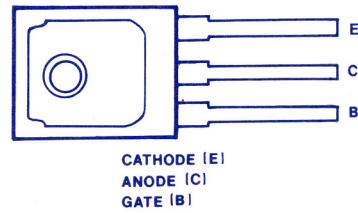

Figure 0-2. Device installed in socket.
- 5) Insert device — Insert device to be tested in socket. See Figure 0-2.